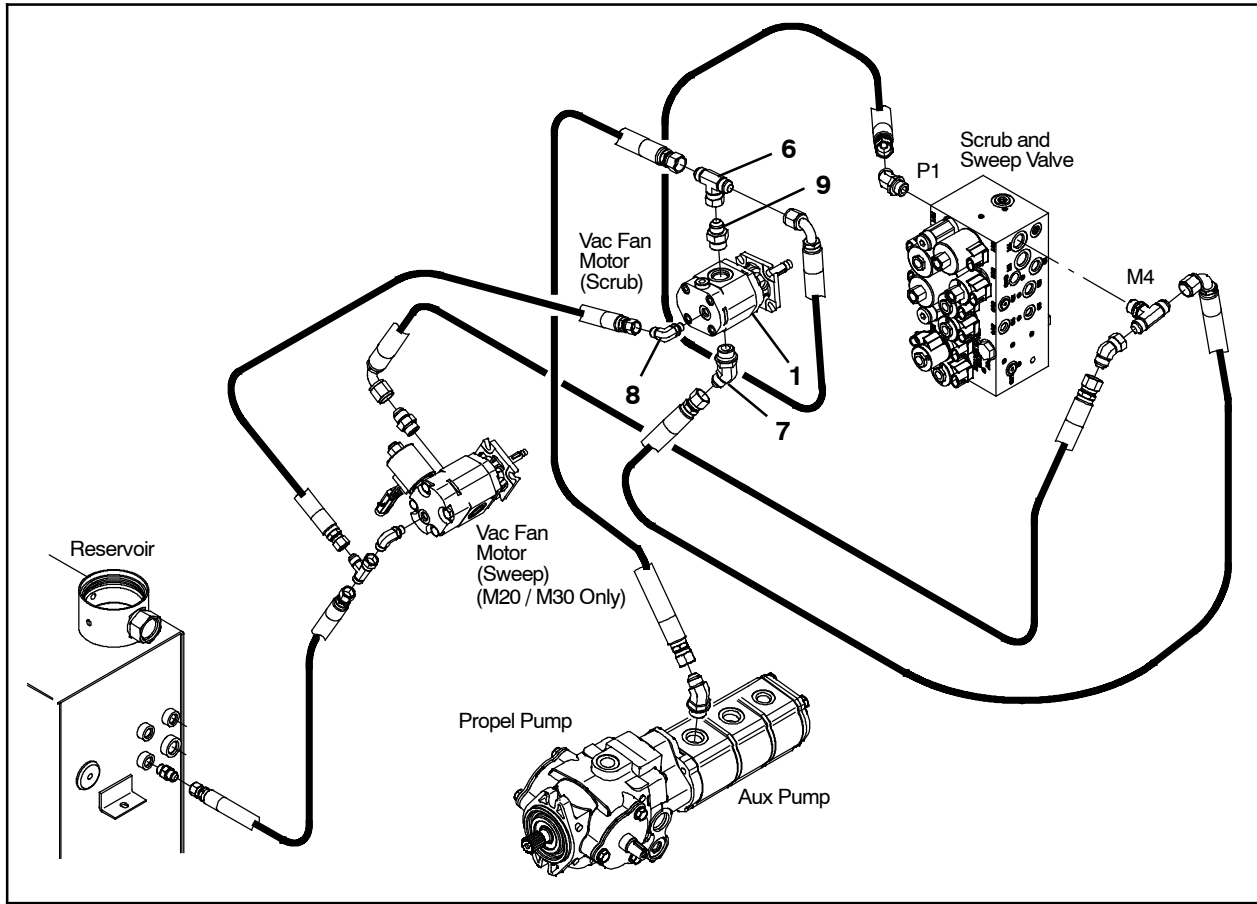

FIG. 13
22. Connect the hydraulic hoses previously disconnected from the removed scrubbing vacuum fan assembly to the new scrubbing vacuum fan assembly. (Fig. 13)